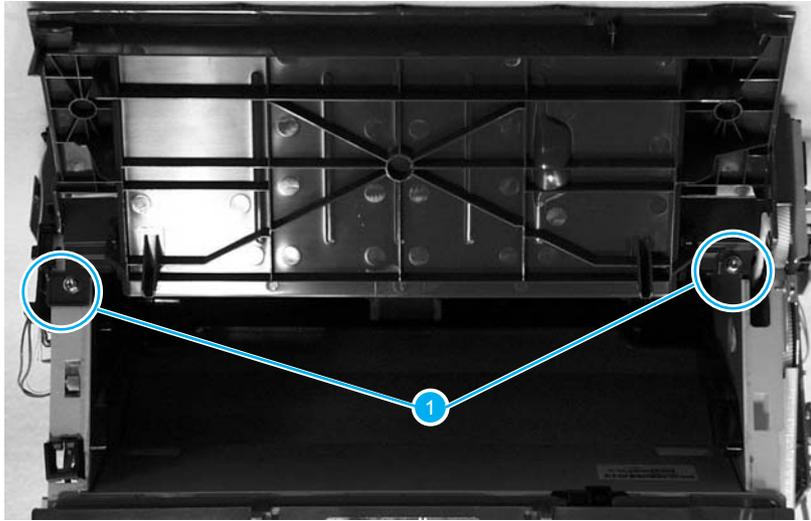

Figure 5-9. Removing the rear panel (1 of 5)
4. Remove two screws from the top of the product (callout 1, figure 5-9).